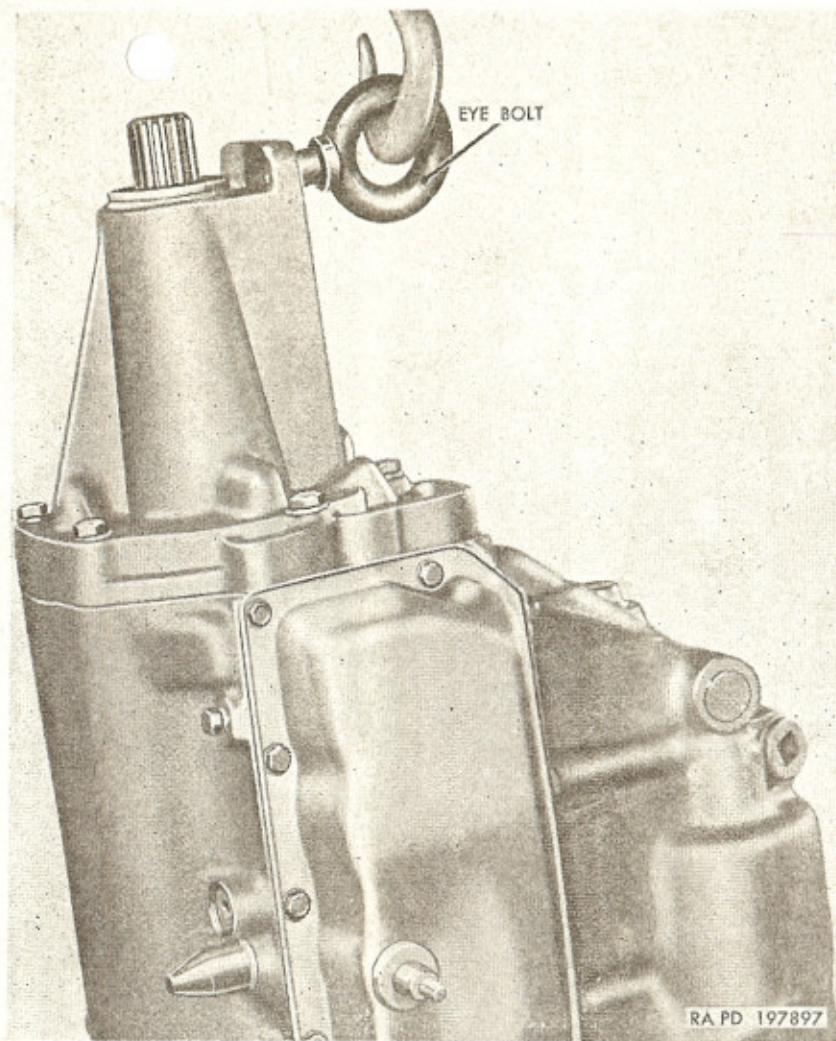

Figure 16. Use of transmission lifting eye bolt—A266327 (301MG).
i. Use a chain hoist and lifting eye bolt—A266327 (fig. 16) to facilitate positioning of 301MG transmission from work bench to repair stand or vice versa.